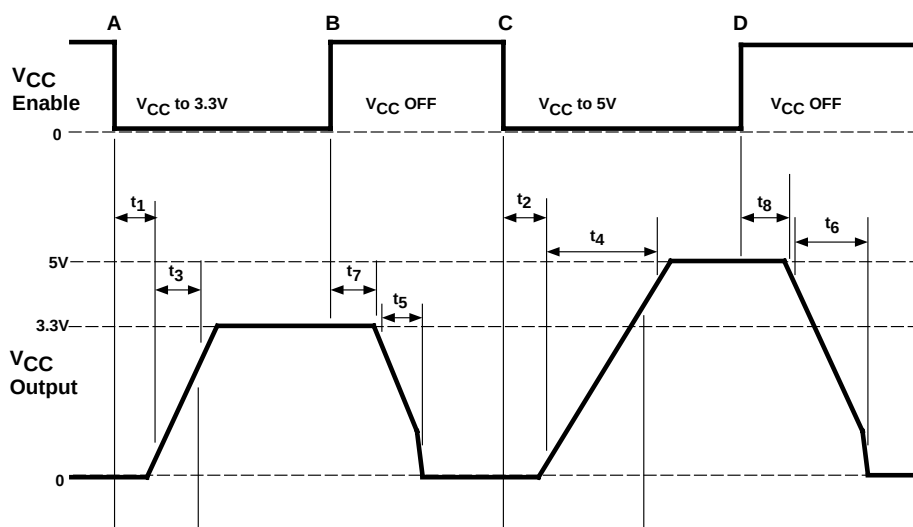

Figure 2. MIC2563A  $V_{CC}$  Timing Diagram
**VCC Switching Time** (See Figure 2)